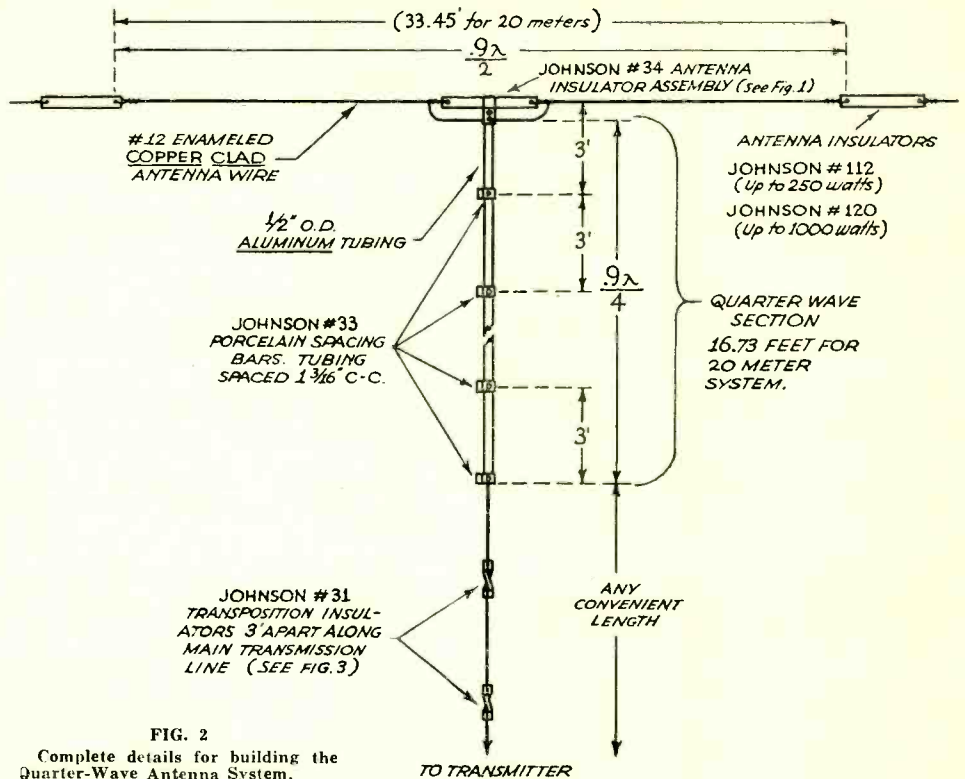

FIG. 2 Complete details for building the Quarter-Wave Antenna System.
Some time ago it was pointed out that a quarter-wave line functions as an impedance-matching transformer.3 Lines of this type, with copper bar conductors supported horizontally on poles, have been used by the Bell Telephone Laboratories for matching antenna arrays to a main transmission line, but obviously this type of construction would be out of the question for the average amateur installation. Still, it was apparent that the quarter-wave line offered the advantages of extremely high efficiency and simplicity, and would constitute a close approach to an ideal matching system, provided the electrical and mechanical problems could be solved. Fig. 2 shows an antenna insulator suspension assembly, supporting a pair of aluminum quarter-wave tubes at the center of the doublet—a practical and inexpensive answer to these problems.
Since the main line impedance is likely to lie between extreme values of 440 to 630 ohms, depending on the size of wire and conductor spacing chosen, it is necessary to adjust the impedance of the quarter-wave line to the correct value for any particular main transmission line. This is done by altering the spacing of the tubes according with data in Table 2. The glazed porcelain spacing bars (See Fig. 2) are slotted to provide for this adjustment and should be installed not more than 3 feet apart along the line to insure accurate spacing.
**A**LTHOUGH the antenna insulator assembly shown in Fig. 2 is a commercial product, it may be duplicated by any mechanically-minded amateur. It consists of two 7-inch glazed porcelain bars, spaced one-half inch apart, and assembled with bolts through the holes. A cable eye is slipped over
As the diagram shows, L2 is shielded, but the shielding has some special features which are shown in Fig. 2. The shielding is complete except for a hole, twice the diameter of the coil, which is covered by a Faraday Screen. This Faraday Screen is an electrostatic shield which introduces no losses in the electromagnetic coupling between L1 and L2. This is because of its unusual construction. The Screen is made by winding #36 enameled copper wire around a stiff piece of cardboard or thin bakelite. This "form" should be large enough to cover the hole in the shield can in which L2 is housed.
strip of copper or a piece of wire) to this end, as shown in Fig 2(a). This lead, of course, is grounded. Mount this Faraday Screen over the hole, as shown in Fig. 2 (b). Small escutcheon pins or brads can be used as "rivets", if a professional job is desired.
The free end is sweated into a solder lug which is bolted firmly to the tubing supporting strap. As shown in Fig. 2, one lead is